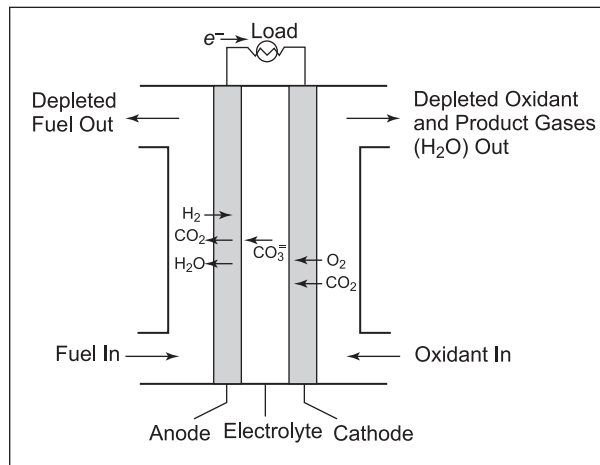

Figure 1.5 A schematic diagram of fuel cell
5. **Energy transfers:** Devices which economically extract energy from a source and convert it to a usable form are always in demand. The more economical and simple a device is, greater is the demand. Research work is going on across the globe to create devices so that higher-grade energy can be recovered to the maximum level with minimum effort. These devices need to adhere to the laws of thermodynamics and a good knowledge of thermodynamics together with other branches of science can produce less pollution during the desired energy transfer (Figure 1.5).